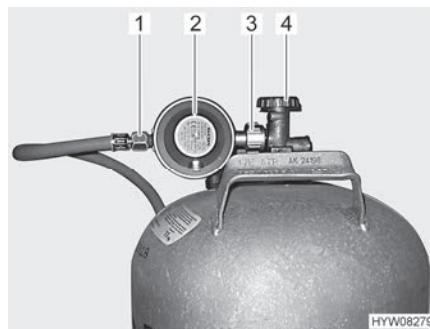

Fig. 47 Gas bottle connection
- Close the regulator tap (Fig. 47,4) on the gas bottle. Pay attention to the direction of the arrow.
- Hold the gas pressure regulator (Fig. 47,2) and open the knurled nut (Fig. 47,3) (normally a left-hand thread).
- Remove the gas pressure regulator and the gas tube (Fig. 47,1) from the gas bottle.
- Position the gas pressure regulator (Fig. 47,2) with gas tube (Fig. 47,1) on the gas bottle and tighten the knurled nut (Fig. 47,3) (normally a left-hand thread). **Do not** tighten too firmly.